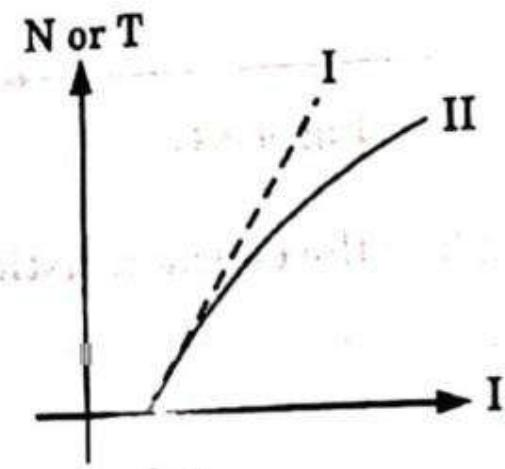

Fig. 4.9.2.
- At starting upto small value of armature current I_{a0} , torque of shaft will be zero. After I_{a0} , as current increases, torque will increase linearly. This is shown by curve I in Fig. 4.9.2.
∴ Actual characteristics will be as shown in curve II in Fig. 4.9.2